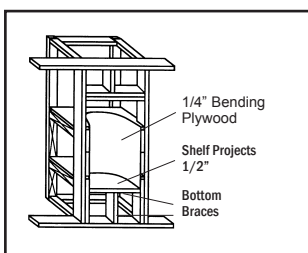

Figure 5
- Position and nail into framing. (figure 5)
- Check level and nail base into bracing. (figure 5)